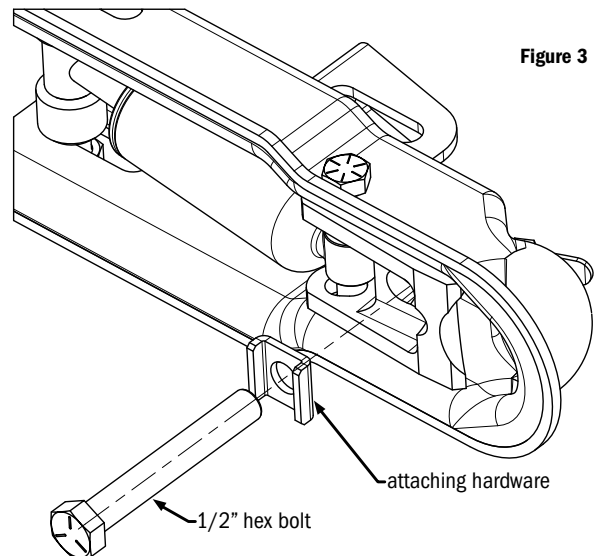

Figure 3
3. Push the 1/2" hex bolt out through the bottom of the coupler, removing all attaching hardware and discard. (see Figure 3)